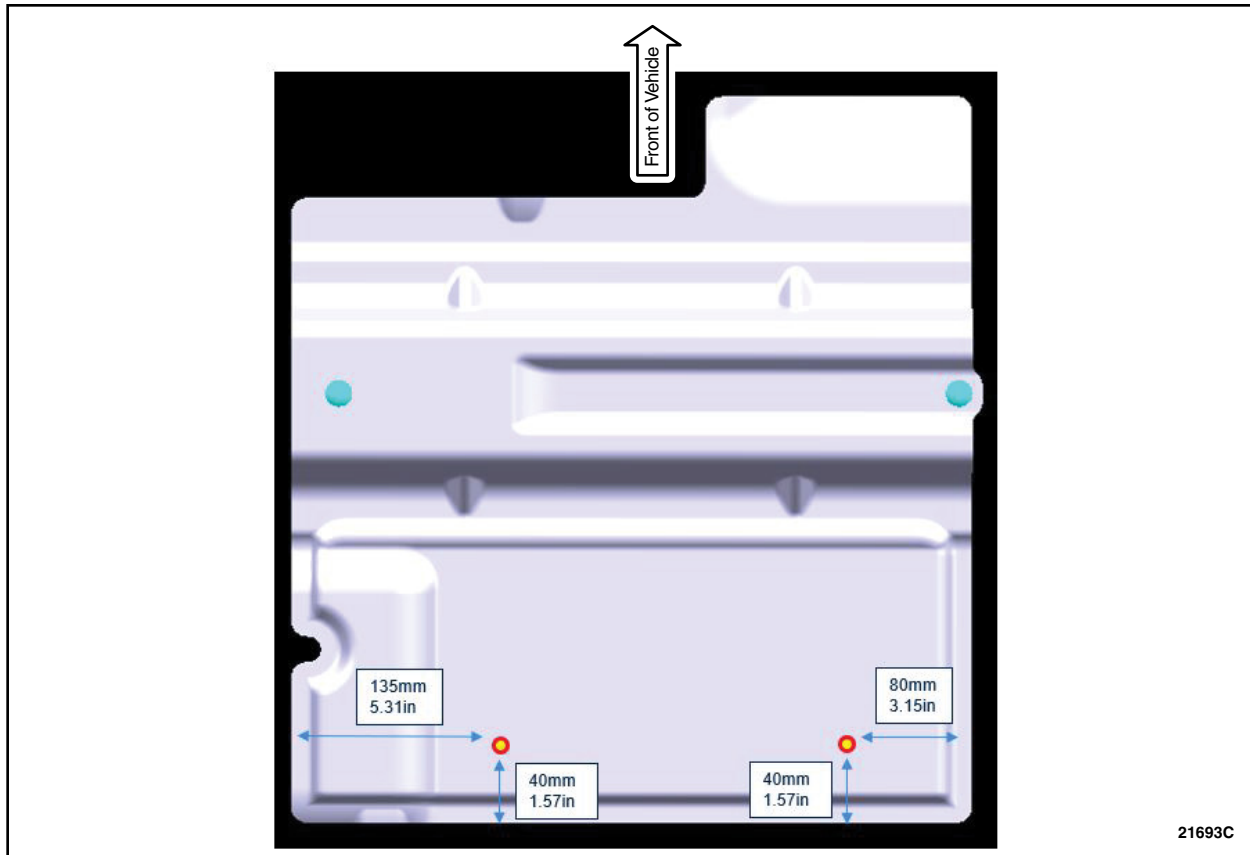

FIGURE 6
6. Measure and mark the two locations on the underbody insulator. See Figure 6.